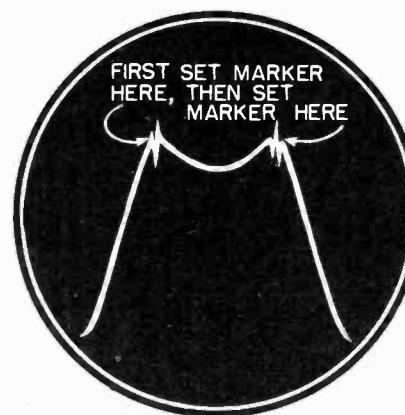

Fig. 7 The oscilloscope pattern obtained when using the sweep generator.
with an oscilloscope, it plots an oscillogram of the amplitude response of the amplifier versus frequency, and gives the type of pattern shown in Fig. 7 for a good video amplifier. In making any adjustments of the peaking coils, the serviceman can see at a glance the effect on the amplitude response. Thus alignment becomes a matter of only a few minutes. A description of the sweep generator is given in the October 1945 issue of *RADIO MAINTENANCE* as applied to audio circuits, and the reader is referred to the article, "Using the Signal Generator and Oscilloscope." The sweep generator described in that article is good for the audio range. For the testing of a video amplifier, the output sweep frequency should have a range ideally from zero frequency (DC) to about 6 mc to check band widths as wide as 4 mc. In actual practice, sweep generators from 100 kc to about 10 mc will be on the market. With the sweep generator, the normal procedure for alignment is as follows:
In order to determine whether the pattern on the oscilloscope is of proper band width, markers are provided in the sweep generator which appear as small pips on the pattern. These are shown in Fig. 7. By varying the marker frequency, the pip can be moved to any position on the pattern and with the calibrated dial, the frequency band width can be read directly. With this setup, all the serviceman has to do is check the band width of the amplifier with the markers. If it is not flat for the desired range, he simply adjusts the peaking coils while watching the pattern until the markers indicate the proper band width. With the video amplifier aligned for 4-mc band width, and if the preceding amplifiers have equally good selectivity, it will be possible to see the vertical lines in the wedge of